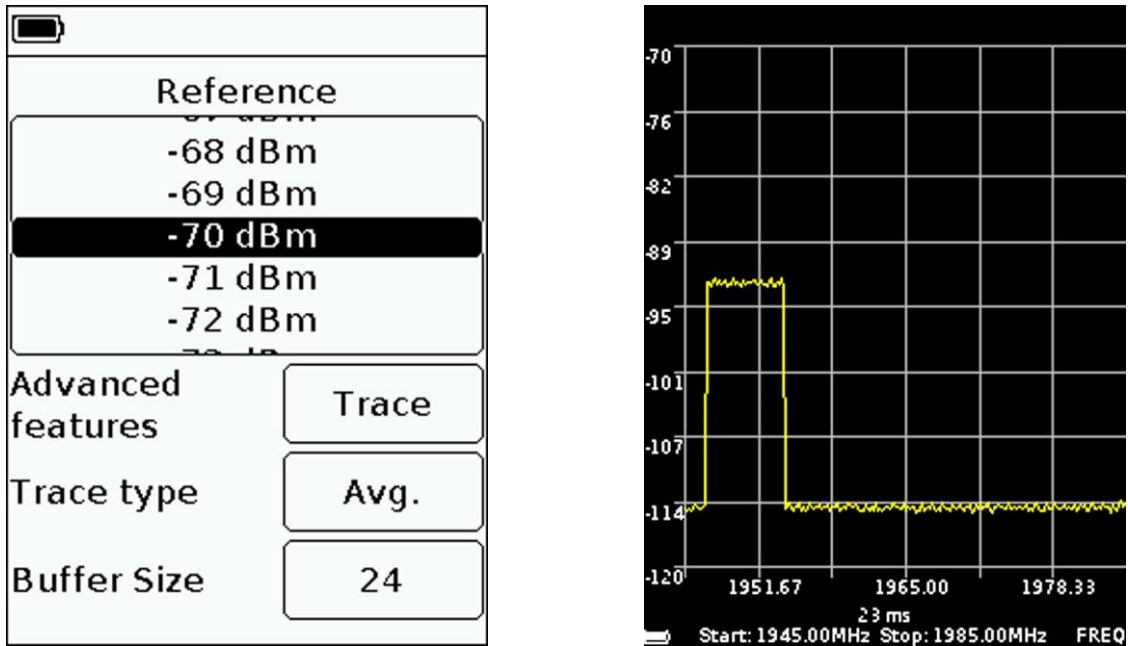

Figure 8.4.4 - Measurement in the additional mode «Trace Avg.»
8.4.2.3. In the additional «Trace» mode, when choosing the measurement type «Avg.», the average signal values are displayed on the screen (Figure 8.4.4). In addition, the number of measurements (8, 16, 24 or 32) used to calculate the average value is set in the **Buffer length** window.